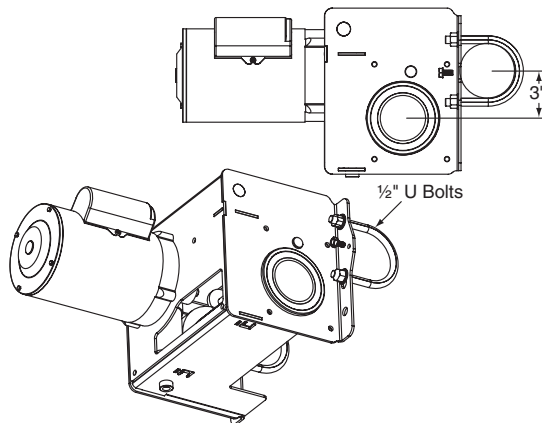

Figure 1
- Use the two pipe clamps supplied to secure the winch to a 4" O.D. standard pipe. The use of clamps for 3½" O.D. pipe is also provided for on the side base plates of the winch. The pipe clamps will line up with the two pairs of mounting holes on the front flange of the winch (see Fig. 1).